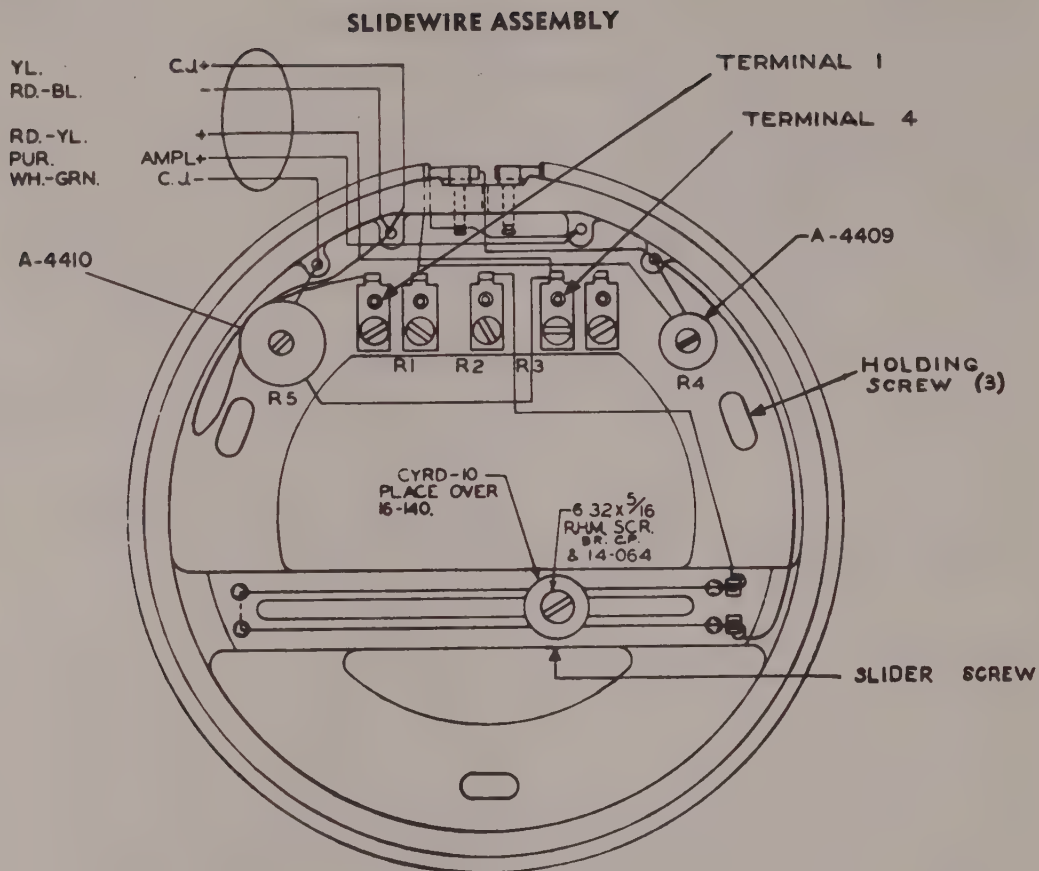

Figure 5-3
- a. Loosen the three slidewire assembly holding screws (see Figure 5-3).
- a. Loosen slidewire assembly slider screw (see Figure 5-3).
1. Connect the leads of a voltmeter to terminals 1 and 4 on the slidewire assembly (see Figure 5-3). The voltage reading should be approximately 1 volt.